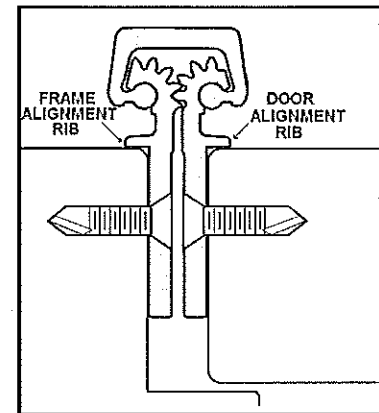

Fig. 2
- With the hinge open, place the hinge door leaf against the edge of the door making certain that the door alignment rib is flush against the door face along its entire length (See Fig. 2). Position the top of the hinge flush with the top of the door.